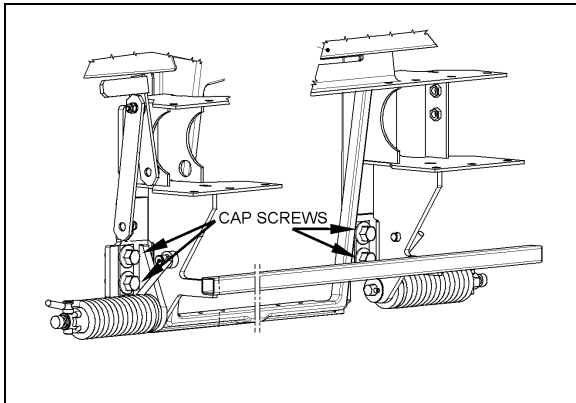

FIGURE 19: FRONT BUMPER ASSEMBLY
2. Remove 4 cap screws holding bumper to vehicle and remove bumper (Figure 19).
2. Remove the Allen button head screw and the washer retaining the rod end with bearing to the upper hinge. See figure 19.
3. Remove the Allen button head screw and the washer retaining the ball and socket rod to the upper hinge. See figure 19.